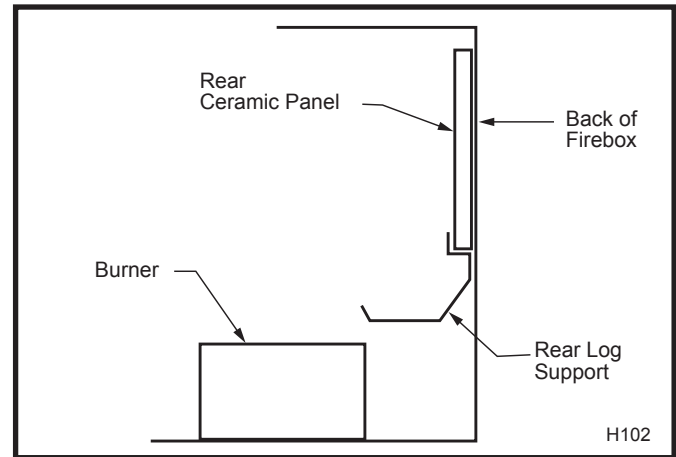

Fig. 44 Rear ceramic panel placement.
2. Place rear ceramic panel in back of unit. (Fig. 44)